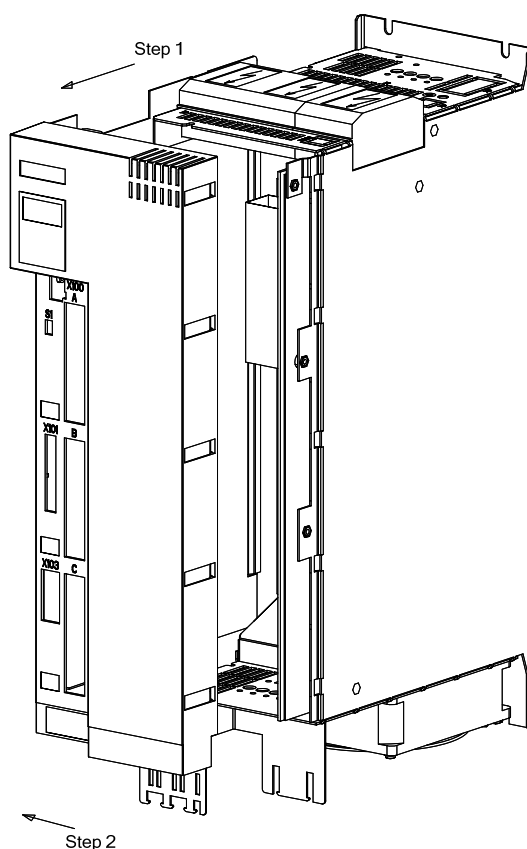

Fig. 5-9
- ◆ Carefully pull the device front including left side panel forward to the front (approx. 1 cm) so that the rear fold on the left-hand side panel can be loosened from the rear panel of the device as well as the front cover on the right-hand front panel from the housing (Fig. 5-9).
- ◆ You can then fold out the unit – consisting of front cover and left-hand side panel – to the left (Fig. 5-9).